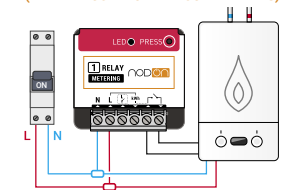

Figure 2
- 3 Wire the Zigbee Multifunction Relay Switch with metering following the diagram figure 2, making sure to connect the two wires which controls the ambient thermostat (see your boiler user guide).